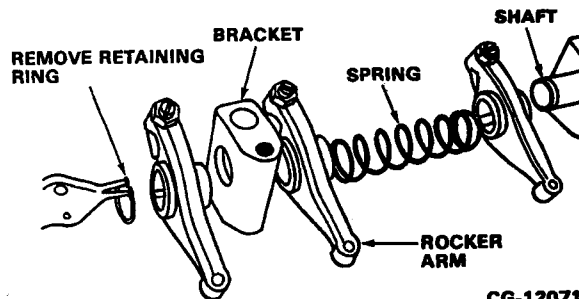

Figure 5.4. Remove Components from Rocker Arm Shaft
3. Slide the rocker arm components off the shaft as shown in Figure 5.4.